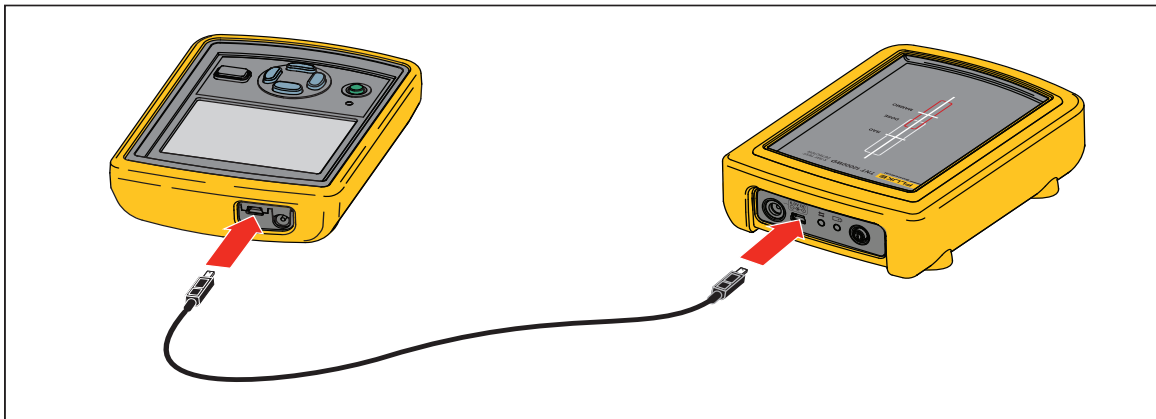

Figure 2-1. Wired (USB) Connection
1. Connect the ends of the Mini-A to Mini-B USB cable to the USB port of the Display and the Detector as shown in Figure 2-1.